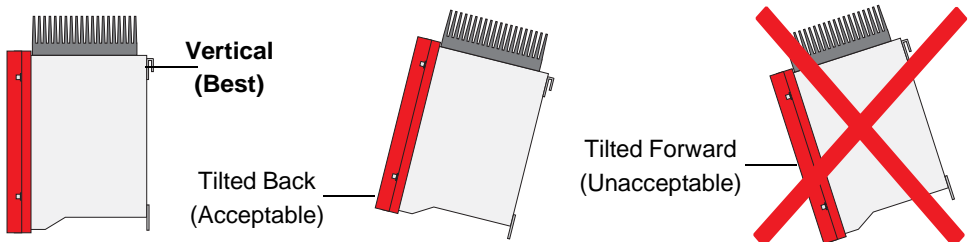

Figure 3-1 Sunny Boy Mounting Positions
- If the inverter is installed outside, it must be mounted vertically or with the top tilted towards the back. To ensure optimum energy yield and ease of operation, mount the inverter vertically and at eye level (see Figure 3-1).